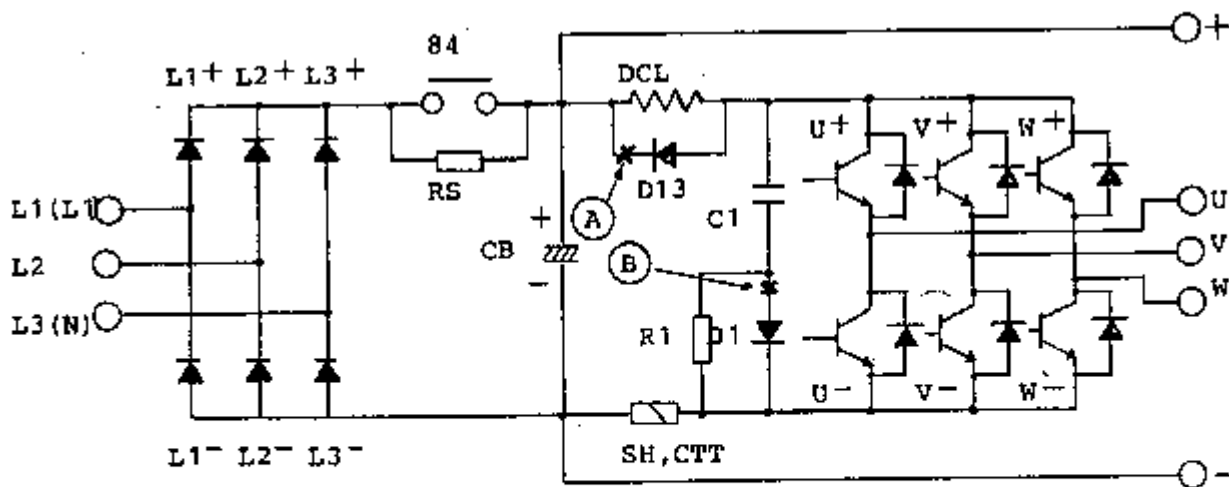

Fig.1
After having removed the point (A) as shown in Fig.1,
After having removed the point (B) as shown in Fig.1,